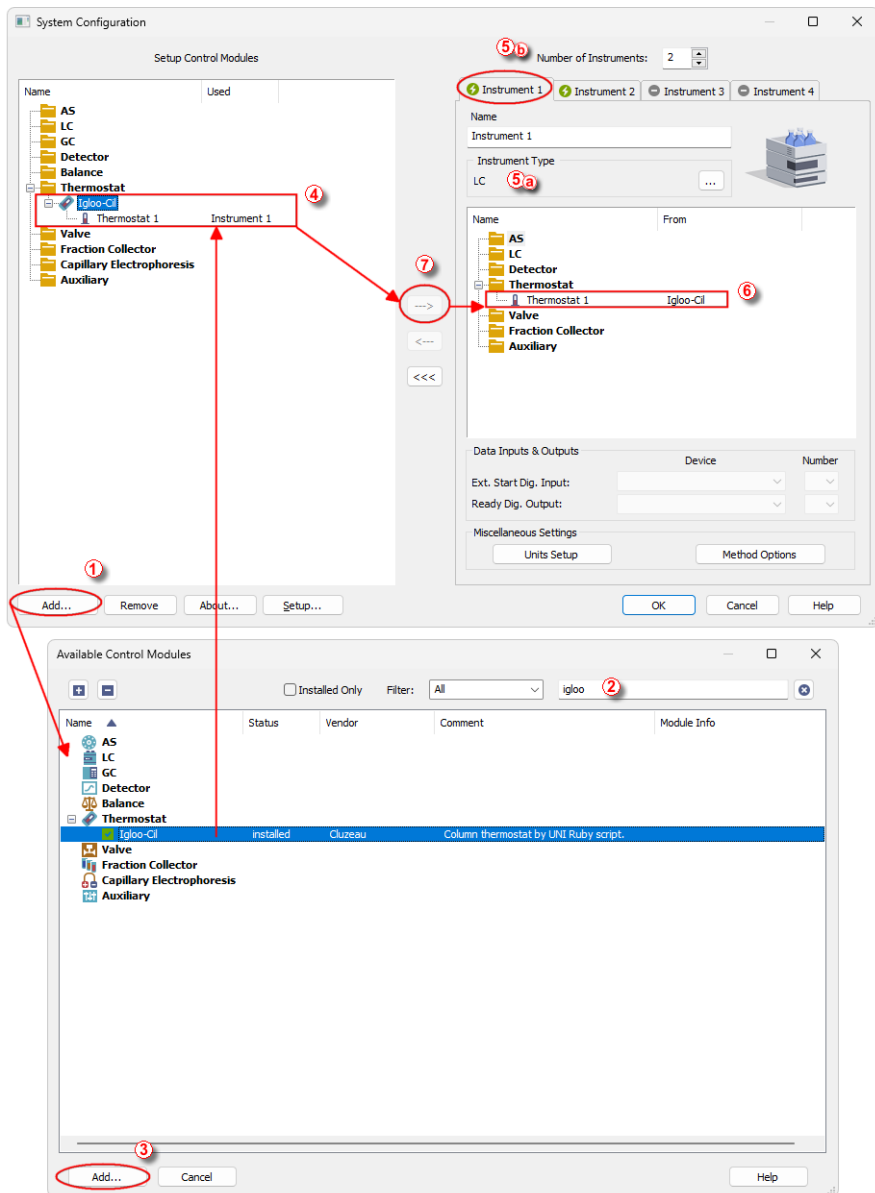

Fig. 3: How to Add Cluzeau Igloo-CIL module
- Press the *Add* button (① on **Fig. 3** on pg. 4.) to invoke the *Available Control Modules* dialog.
- You can specify the search filter (②) to simplify the finding of the driver.
- Select the correct item and press the *Add* (③ on **Fig. 3** on pg. 4.) button. Each device with already created UNI profile should have its own item named accordingly in the *Available Control Modules* dialog.